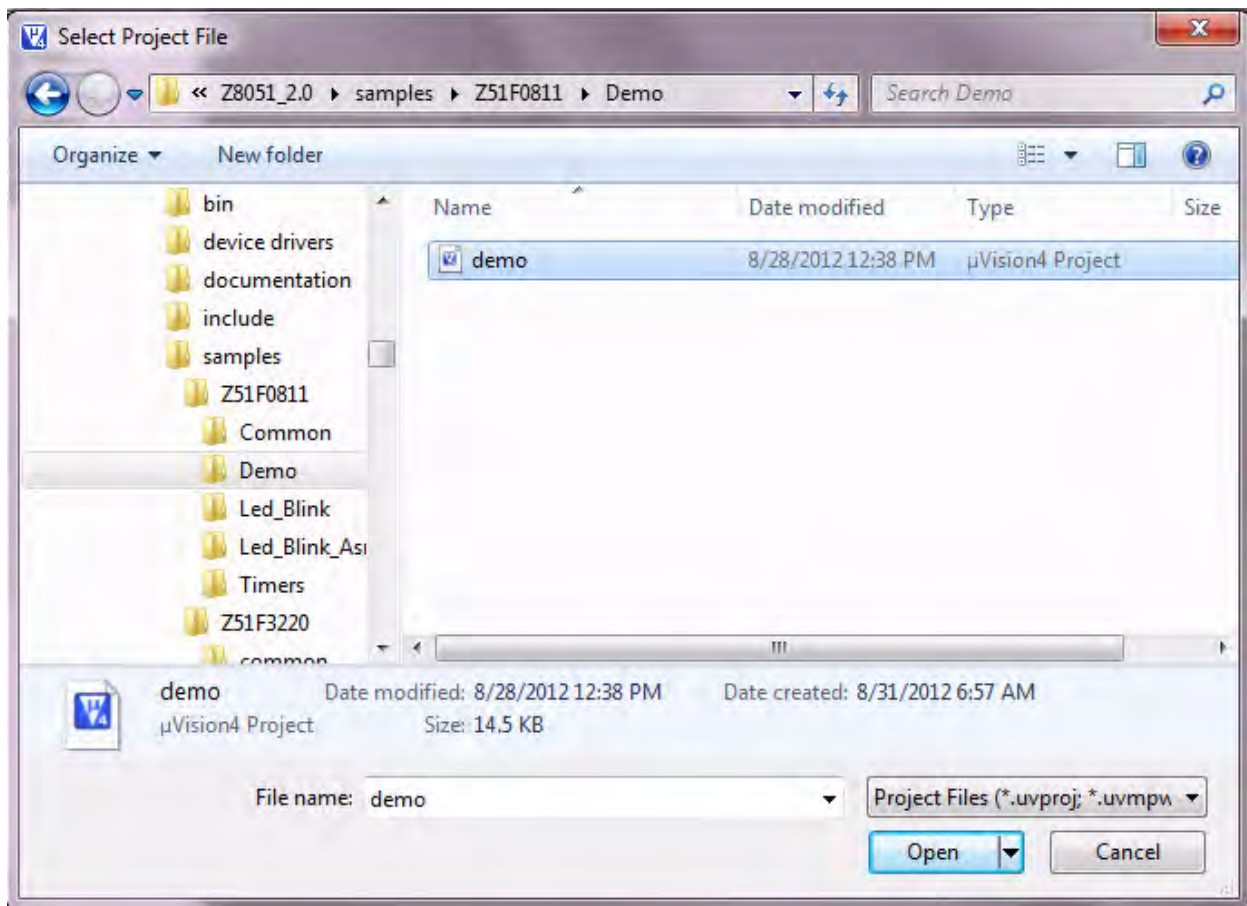

Figure 22. Selecting the Demo Project File
3. Select the Demo.uvproj file and click **Open**; see Figure 22.